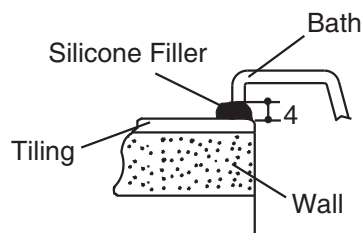

Fig.1
- ❑ The necessary gap between bath rim and the wall is 2 mm horizontally and 4 mm vertically. Refer to figures 1, 2, and 3 above.